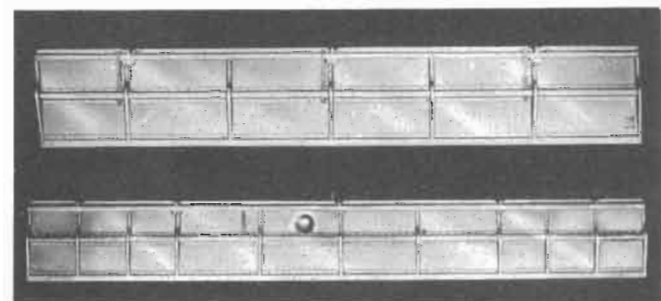

Figure 56 — Wing Flap Structure
(3) WING FLAPS.—(See figure 56.)—Three split-type landing flap panels are incorporated in the lower surface of the wing trailing edge between the inboard ends of the ailerons.